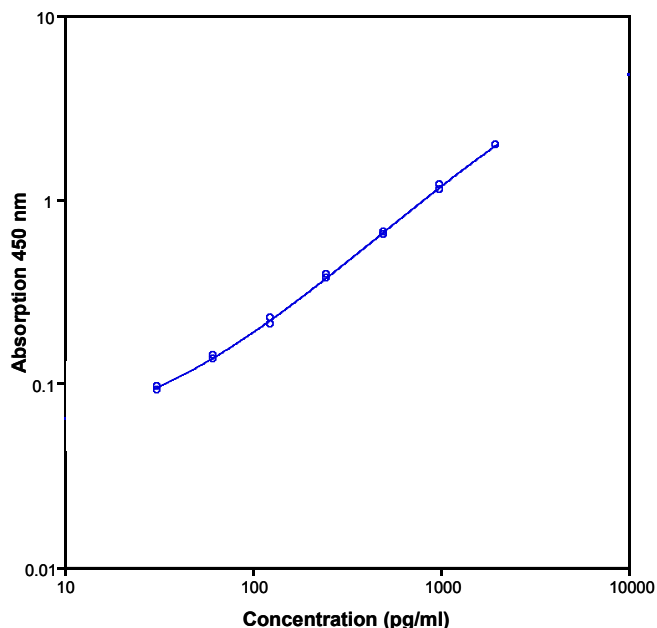

Fig. 8 Representative standard curve for human VAP-1 ELISA. Human VAP-1 was diluted in serial 2-fold steps in Assay Buffer (1x).
- A representative standard curve is shown in Figure 8.